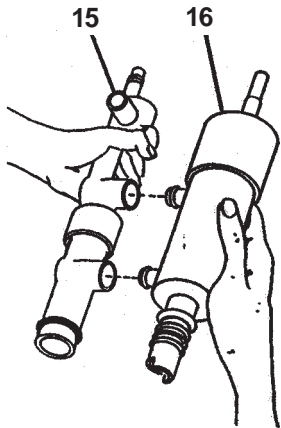

**Figure 6. Manifold Disassembly**
- Remove quick connect (4) from manifold (5). Remove two wing nuts (6), locking plate washer (7), and manifold (5). Remove manifold connector O-ring (8) from manifold (5), and manifold "O"-ring (9). Loosen hose clamp (10) and remove hose (11). (See Fig. 6)
- A. Place manifold "O"-ring (9) onto manifold (5) and lubricate lightly. Place manifolds connector "O"-ring (8) onto manifold (5) and lubricate. Place manifold (5) into pressure switch. Position locking plate washer (7) and secure with two wing nuts (6) finger tight. Connect tubing (11) to quick connect (4) and tighten hose clamp (10) finger tight. Connect quick connect (4) to manifold (5). (See Fig. 6)
- B. Install air inlet check valve (30) into cylinder top (31). Do not lubricate. Install air inlet retainer (29) into air inlet valve. Push into place. Check quad ring (33) for excessive wear and replace if necessary. Spray a thin film of lubricant in bottom of cylinder top (31).